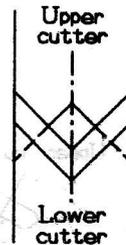

Fig. 6
-After fitting the blade, confirm that no dislocation can be found between the upper and the lower blades as shown in Fig.6.